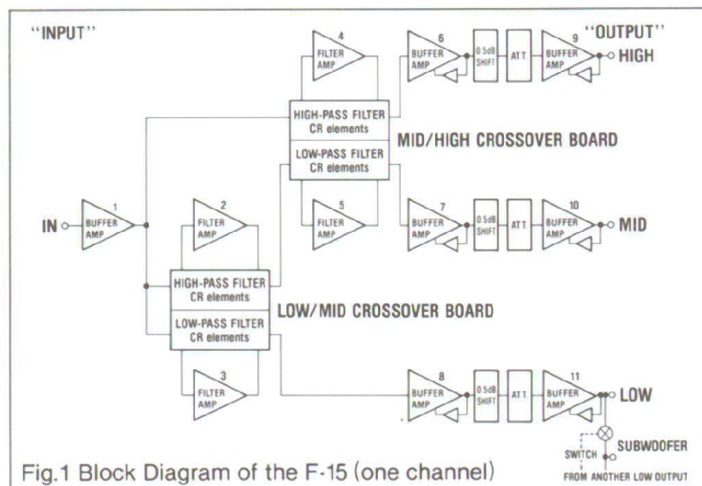

Fig. 1 Block Diagram of the F-15 (one channel)
A further 0.5dB step attenuation control is possible by using them in combination with the 0.5dB Shift Buttons (see Fig. 1). This provides 41-point attenuation in the control range from 0 to 20.5dB and infinity.
The crossover frequencies can be changed by interchanging the plug-in type Crossover Frequency Boards. They are designated as CROSSOVER BOARD in Figure 1. Each block contains CR elements that are neatly laid out for both the left and right channels.
An electronic frequency dividing network is made up of a combination of active filter amps and buffer amplifiers. Figure 1 shows the block diagram of the F-15. All unit amps are identical at Gain "1". Amplifiers (2) to (5) are Active Filter Amps which form the crossover frequency characteristics in combination with their associated CR elements.